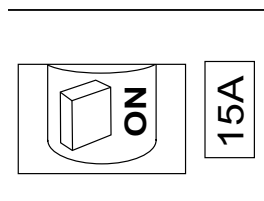

Figure 24. AC Circuit Breaker (ON)
- Place AC circuit breaker (Figure 24) in the **ON** position .